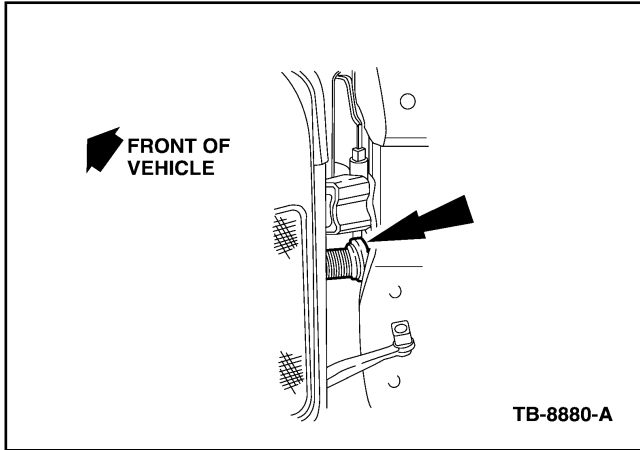

Figure 4 - Article 08-26-7
- a. To ensure proper sealing around the wiring harness grommet, apply a small amount of Motorcraft Seam Sealer and install the grommet into the A-pillar. (Figure 4)